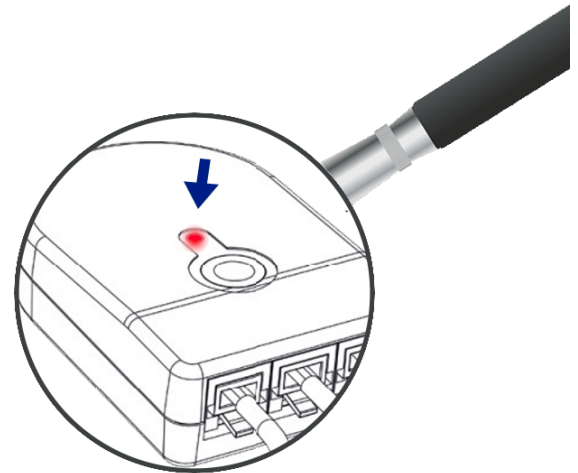

Figure 2.3 – Display of LED location on the sensor's transmitter
6. After installation, check that the sensor is working properly by checking the LED light. If the transmitter light flashes every 10 seconds, the sensor is working properly (see figure 2.3).